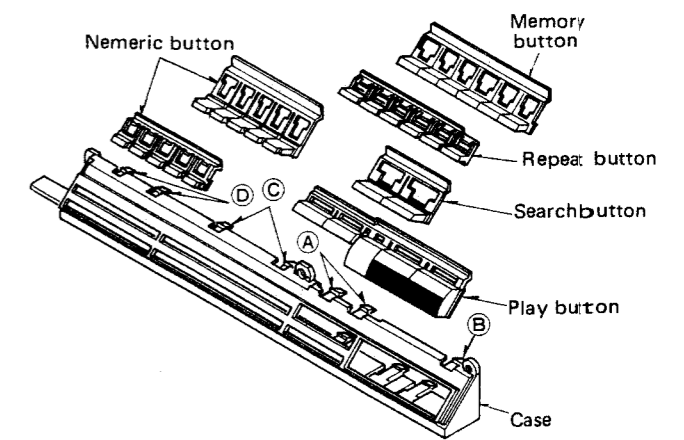

Fig. 8
6. Search button can be removed by releasing the claws ① in Fig. 8.
7. Play button ass'y can be removed by releasing the claw ② in Fig. 8.
8. Memory button can be removed by releasing the claws ③ in Fig. 8.
10. Numeric button can be removed by releasing the claws ④ in Fig. 8.